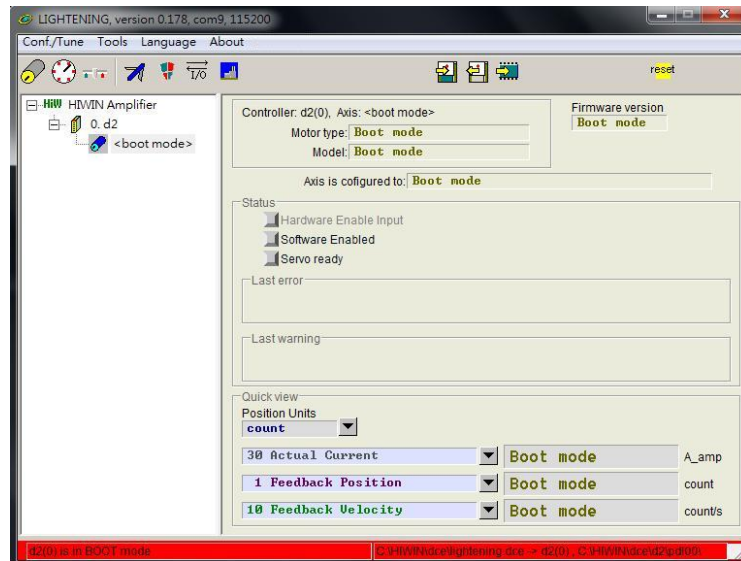

Fig. 4-30
**Note:** Suppose that the power-off occurs or the communication between PC and drive breaks during the firmware being loaded to drive. After the drive is power-on again or the communication is built again, Lightning will stay at the “Boot mode”, as shown in Fig. 4-30. Please contact the franchised dealer to assist excluded this problem.